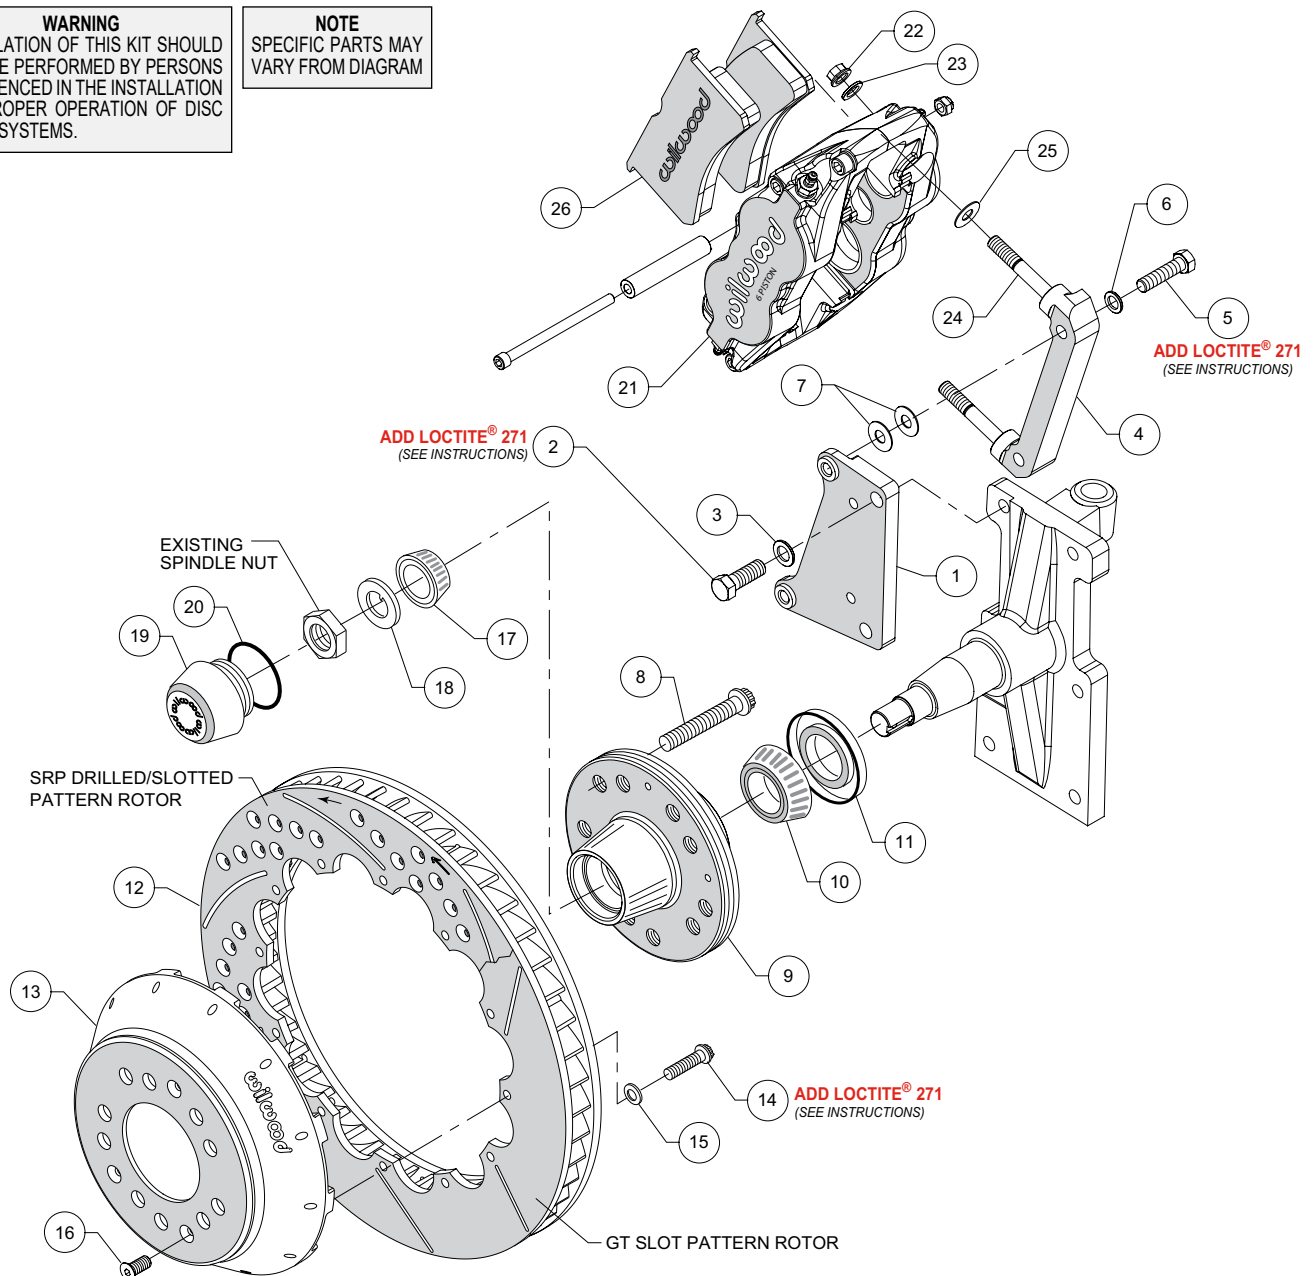
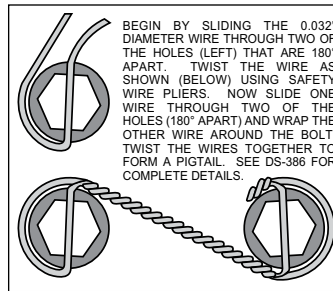
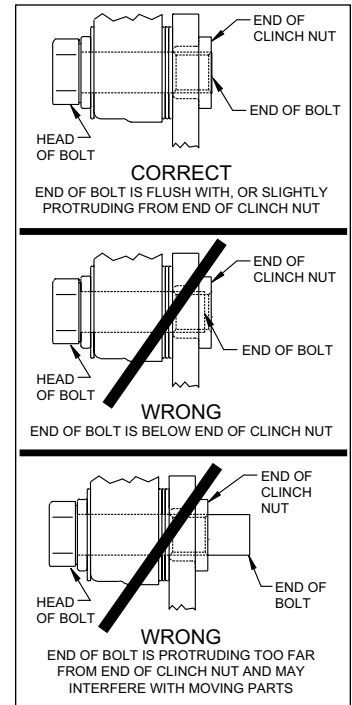

Figure 1. Typical Installation Configuration
Figure 3. Safety Wire Diagram
Figure 4. Clinch Nut Engagement Diagram
Assembly Instructions (numbers in parenthesis refer to the parts list, on the preceding page and Figure 1): **CAUTION: All mounting bolts must fully engage clinch nuts.** Be sure to check that all bolts are either flush or protruding through flanged side of clinch nut after shimming, Figure 4.
- Orient the spindle bracket (1) as shown in Figure 1 and Photo 1. Attach using bolts (2) and washers (3), Figure 1. Temporarily tighten the mounting bolts. Ensure that the flanged heads of the clinch nuts in the bracket are facing outboard, Photo 1. **NOTE: The bracket must fit squarely against the mounting points on the spindle.** Inspect for interference from casting irregularities, machining ridges, burrs, etc. Remove bolts one at a time, apply red *Loctite*® 271 to threads and torque to 55 ft-lbs.
- The caliper mount bracket (4) should initially be installed with clean, dry threads on the mounting bolts. Orient the bracket as shown in Figure 1, and install using bolts (5) and washers (6). Initially place two .035" thick shims (7) on each bolt between the spindle bracket (1) and the caliper mount bracket (4), Figure 1. Temporarily tighten the mounting bolts. Later, after the caliper alignment has been checked, the mount bolts will be secured using red *Loctite*® 271.
- Install wheel studs (8) into the hub (9), Photo 2. Torque to 77 ft-lb. **NOTE: There are two five lug patterns in the hub (5 x 4.50 and 5 x 4.75).** Ensure the correct hub stud pattern is being used to fit the wheel application.
- Pack the large inner bearing cone (10) with high temperature disc brake bearing grease (available from your local auto parts store) and install into the backside of the hub (9), Photo 3.
- Install the grease seal (11) by pressing into the backside of the hub (9), flush with the end of the hub, Photo 3.
- Orient the rotor (12) and the hat (13) as shown in Figure 1 and Photo 4. Attach rotor to hat using bolts (14) and washers (15). Apply red *Loctite*® 271 to the bolt threads and torque to 155 **in-lb** using a criss-cross pattern. For an added measure of security, the bolts may be safety wired using standard 0.032 inch diameter stainless steel safety wire as shown in Figure 3. Refer to Wilwood's data sheet DS-386 (available at www.wilwood.com/Pdf/DataSheets/ds386.pdf) for complete safety wire installation instructions.
- Pack the small outer bearing cone (17) with high temperature disc brake bearing grease and install into hub (9). Slide the hub assembly onto the spindle. Secure using spindle washer (18) and OEM spindle nut, Photo 5. Adjust bearings per OEM specifications. Install saved OEM nut lock (if any) and a new cotter pin (not included).
- Screw dust cap (19) into hub (9), Photo 6. Friction created by the o-ring (20) on the dust cap keeps it from unscrewing. **NOTE:** The O.D. of the existing OEM spindle washer may be larger than the I.D. of the dust cap not allowing it to seat against the hub face. Therefore, use the spindle washer (18) supplied with the kit instead of the OEM washer.
- Slide the hat/rotor assembly (12 and 13) onto the hub (9) taking care to align the small countersunk holes in the hat with the small threaded holes in the hub. **NOTE:** The hat must fit flush against the hub face or excessive rotor run out may result. Install three flat head screws (16) through the small holes in the hat, Photo 6, and torque to 85 in-lb.
- NOTE:** This kit contains distinct right and left hand calipers that must be mounted in a specific direction, as described below. Initially place one .035" thick shim (25) on each stud (24) between the caliper and the bracket, as shown in Figure 1 and Photo 7. Mount the caliper (21) onto the bracket (4) using lock nuts (22) and washers (23), Figure 1. Ensure that the caliper is mounted so the largest pistons are at the rotor exit end of the caliper, in relation to the direction of rotor rotation. Temporarily tighten the lock nuts and view the rotor through the top opening of the caliper. The rotor should be centered in the caliper, Photo 8. If not, adjust by adding or subtracting shims (7) between the spindle bracket (1) and the caliper mount bracket (4). Always use the same amount of shims on each of the two mounting bolts. Once the caliper alignment is correct, remove the bracket mounting bolts one at a time, apply red *Loctite*® 271 to the threads, and torque to 40 ft-lb.
- Remove the caliper center bridge pad retainer bolt, nut, and tube from the caliper. Insert the brake pads (26) into the caliper, with the friction material facing the rotor, as shown in Photo 9. Check that the top of the brake pad is flush with the outside diameter of the rotor, Photo 10. If not, adjust by adding or subtracting shims (25) between the caliper and the bracket. After the caliper pad height is set, torque the caliper lock nuts (22) to 30 ft-lb. Secure the brake pads in place with the center bridge pad retainer tube, bolt, and locknut, Photo 11. The locknut should be snug without play in the bolt or tube. Be cautious not to over tighten.